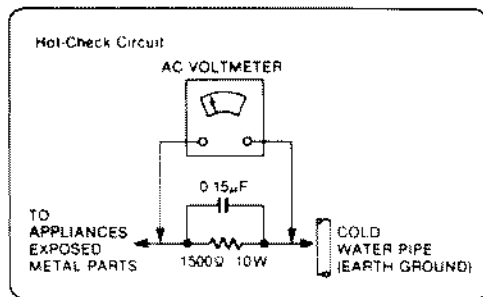

Figure 1
### LEAKAGE CURRENT HOT CHECK (See Figure 1.)
2. Connect a 15k $\Omega$ , 10 watts resistor, in parallel with a 0.15 $\mu$ F capacitor, between each exposed metallic part on the set and a good earth ground such as a water pipe, as shown in Figure 1.